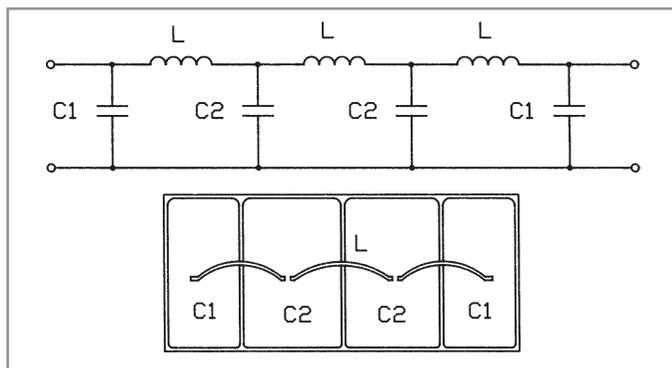

Fig. 12.25. Lowpass filters
I presume that you've already read Chapter 6, so you know why LPFs are so much better for harmonic suppression than the old-fashioned single high-Q circuit. Here is a family of seven-pole lowpass filters for the 50, 70, 144 and 432MHz bands, shown in Fig. 12.25. All should offer a second-harmonic rejection of at least 35dB, and a third-harmonic rejection of better than 60dB, together with very low insertion loss.
- L 12nH As Fig. 12.25
the large circulating currents – and if they don't survive, they weren't "good quality"! For the 432MHz LPF, Fig. 12.25 gives an alternative layout using PCB capacitors.
Lowpass filters for the 50MHz band require extra suppression of the second harmonic, which falls within the FM broadcast bands. The component list in Fig. 12.25 includes a variation of the standard 7-pole LPF in which a 100MHz series tuned trap is substituted for one of the capacitors, giving an extra 20dB of rejection.